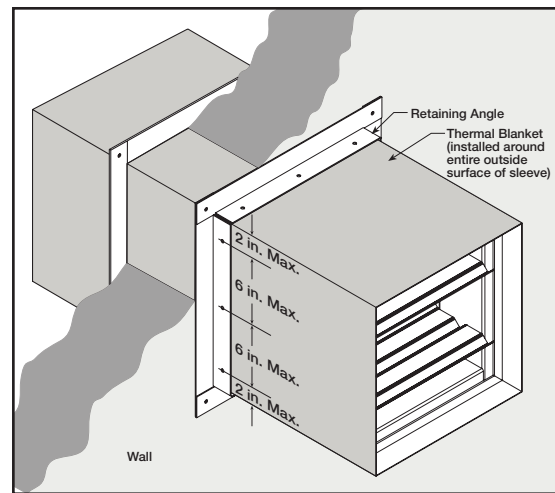

Figure 3: Sleeved damper with Thermal Blanket (duct continuation).
- Retaining angles on continuing duct must be a minimum of 1 1/2 in. x 1 1/2 in. (38mm x 38mm) 16 gauge (1.5mm) steel (refer to **Figure 3**). Screwing sleeve to steel studs is not required.